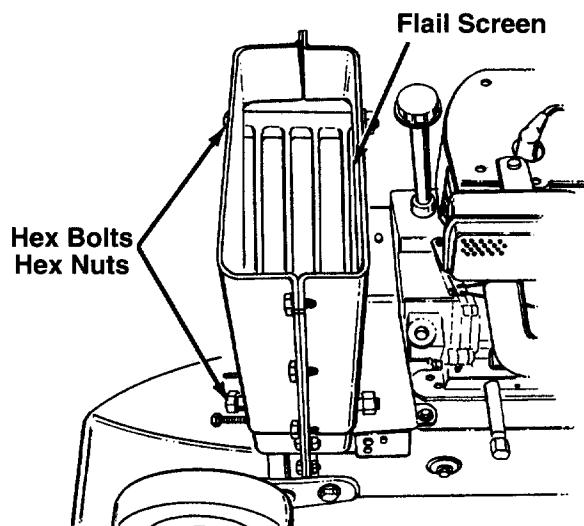

FIGURE 20.
NOTE: Be certain to reassemble the flail screen with the curved side down as shown in figure 20.
- Remove the two hex bolts and hex nuts which extend through the housing. Lift the flail screen from inside the housing. See figure 20.